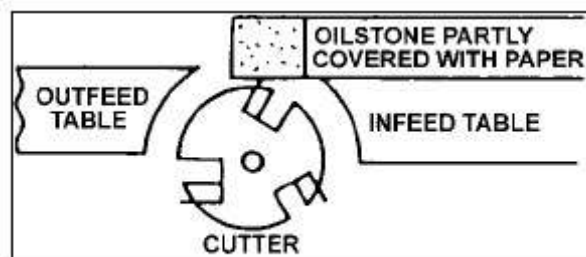

Figure 22
3. To protect the infeed table from scratches, partially cover the sharpening stone with paper (Figure 22).